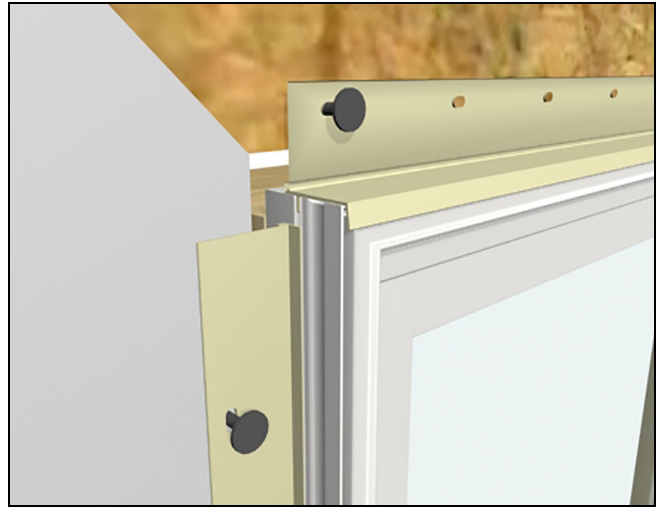

Figure 13
2. Once level, tack the jamb nailing fin with 2" (51) roofing nails within in 4" (102) from the head jamb (or fasten top brackets if applicable, follow instructions sent with brackets). If fastening through the exterior casing, use 16d casing nails. See Figure 13.